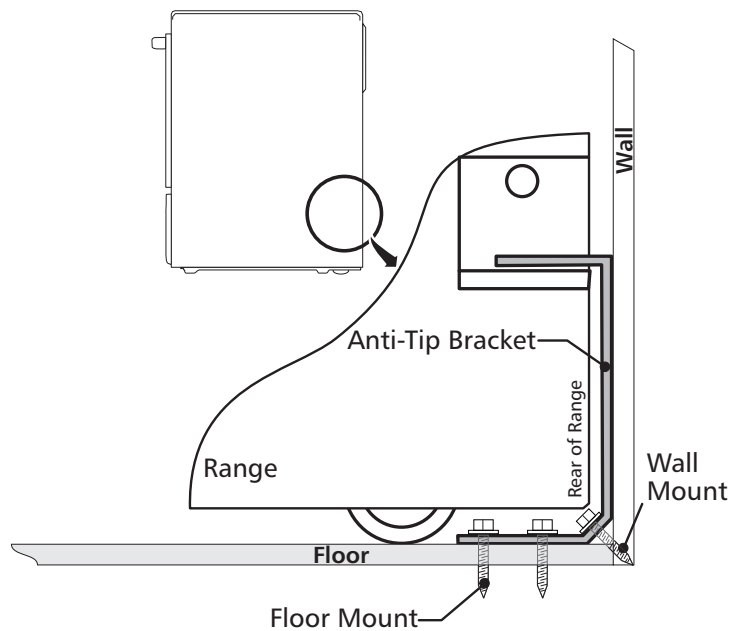

Figure 12
4. Remove template and place bracket on floor. Line up holes in bracket with marks on floor/wall and attach with screws provided. Bracket must be secured to solid floor or wall (Figure 12). If attaching to concrete floor, first drill 3/16" (0,48 cm) dia. pilot holes using masonry drill bit.